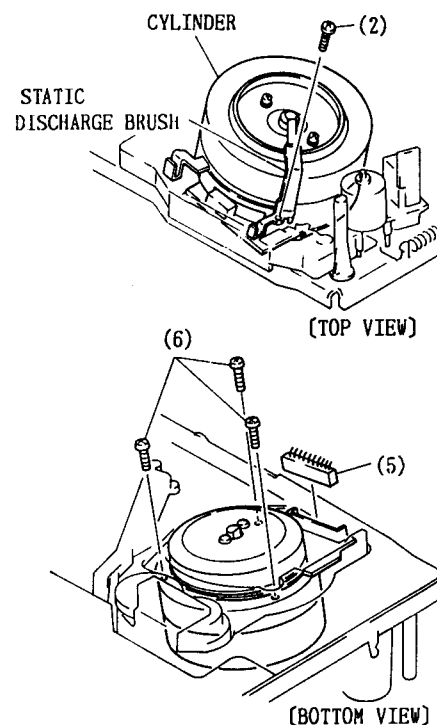

Fig. 7-2 Cylinder Motor Assembly
2. Cylinder Motor Assembly (Fig. 7-2)